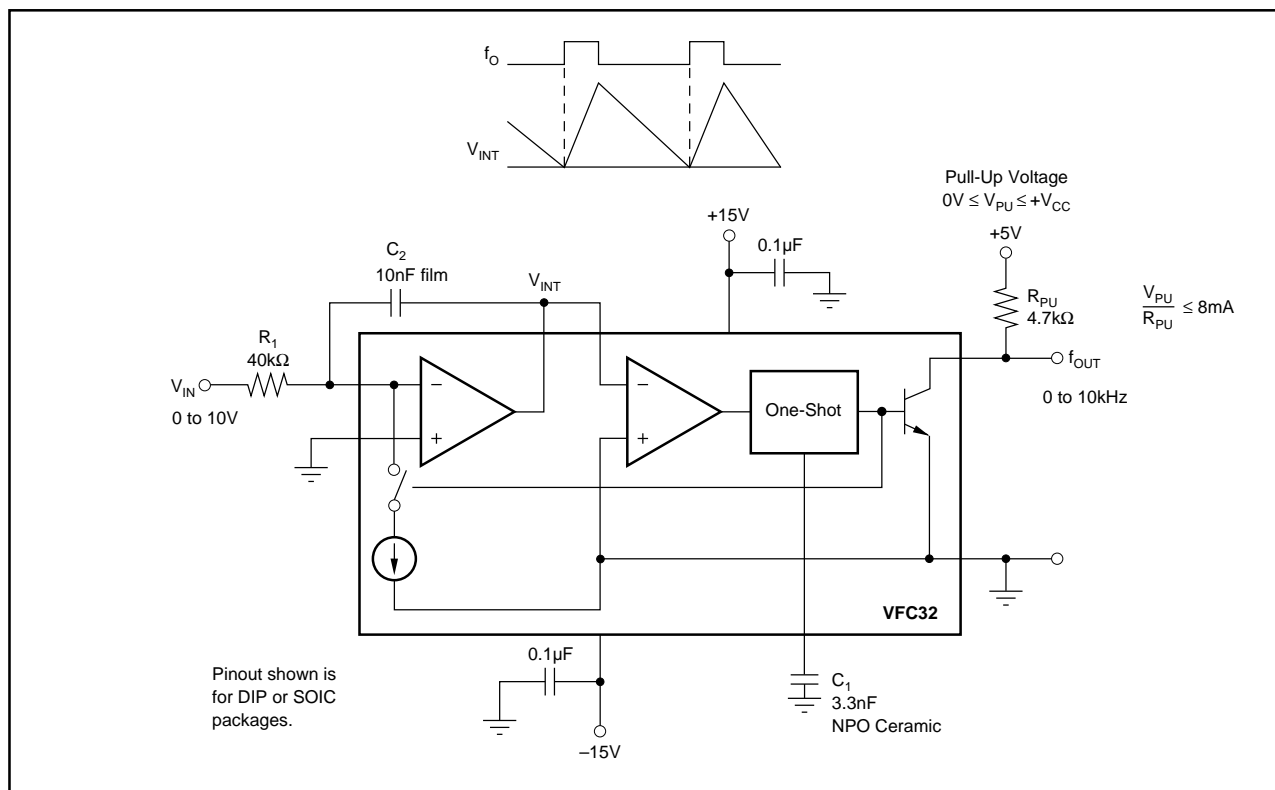
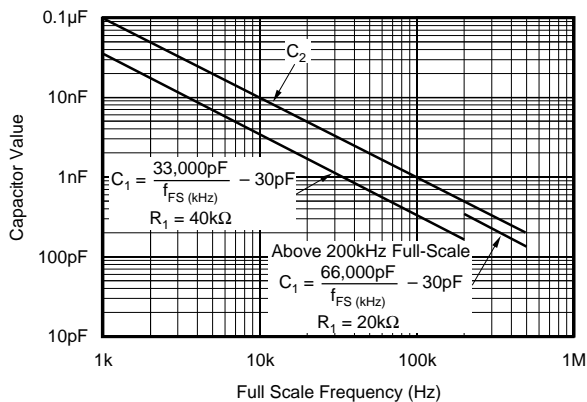

FIGURE 1. Voltage-to-Frequency Converter Circuit.
FIGURE 2. Capacitor Value Selection.
NOTES: (1) A 25% duty cycle (0.25mA input current) is recommended for best linearity. (2) Adjustable to zero. See Offset and Gain Adjustment section. (3) Linearity error is specified at any operating frequency from the straight line intersecting 90% of full scale frequency and 0.1% of full scale frequency. See Discussion of Specifications section. Above 200kHz, it is recommended all grades be operated below +85 $^\circ\text{C}$. (4) $\pm 0.015\%$ of FSR for negative inputs shown in Figure 5. Positive inputs are shown in Figure 1. (5) FSR = Full Scale Range (corresponds to full scale frequency and full scale input voltage). (6) Exclusive of external components' drift. (7) Positive drift is defined to be increasing frequency with increasing temperature. (8) For operations above 200kHz up to 500kHz, see Discussion of Specifications and Installation and Operation sections. (9) One pulse of new frequency plus 1 μs .
Figure 1 shows the basic connection diagram for frequency-to-voltage conversion. R_1 sets the input voltage range. For a 10V full-scale input, a 40k Ω input resistor is recommended. Other input voltage ranges can be achieved by changing the value of R_1 .
The full-scale output frequency is determined by C_1 . Values shown in Figure 1 are for a full-scale output frequency of 10kHz. Values for other full-scale frequencies can be read from Figure 2. Any variation in C_1 —tolerance, temperature drift, aging—directly affect the output frequency. Ceramic NPO or silver-mica types are a good choice.
For full-scale frequencies above 200kHz, use larger capacitor values as indicated in Figure 2, with $R_1 = 20\text{k}\Omega$.
The value of the integrating capacitor, C_2 , does not directly influence the output frequency, but its value must be chosen within certain bounds. Values chosen from Figure 2 produce
approximately 2.5Vp-p integrator voltage waveform. If C_2 's value is made too low, the integrator output voltage can exceed its linear output swing, resulting in a nonlinear response. Using C_2 values larger than shown in Figure 2 is acceptable.
The value of C_1 is chosen from Figure 2 according to the full-scale input frequency. C_2 smooths the output voltage waveform. Larger values of C_2 reduce the ripple in the output voltage. Smaller values of C_2 allow the output voltage to settle faster in response to a change in input frequency. Resistor R_1 can be trimmed to achieve the desired output voltage at the full-scale input frequency.